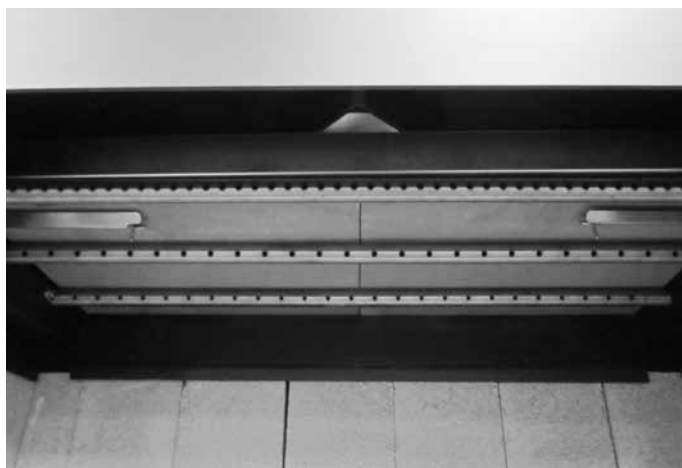

Figure 4.10 Reinstall Baffle Boards
- Reinstall the baffle boards and the baffle protection channel. See Figures 4.10 and 4.11.